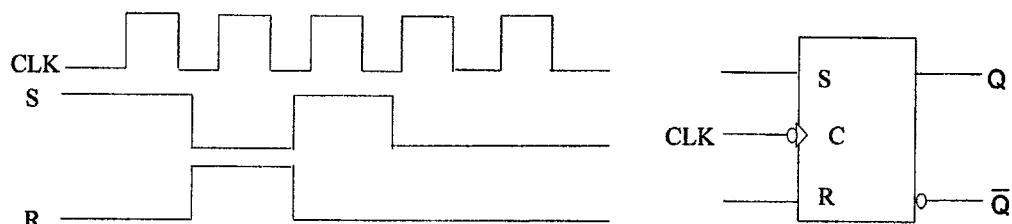

Figure 12
- (b) Determine the Q and  $\bar{Q}$  output, for the SR flip flop as shown in Figure 12.